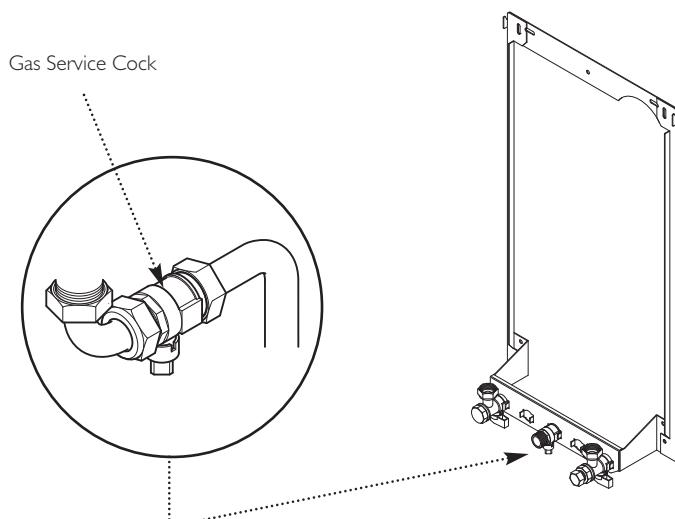

Fig. 7
- The connection to the appliance is a 22mm copper tail located at the rear of the gas service cock (Fig. 7).